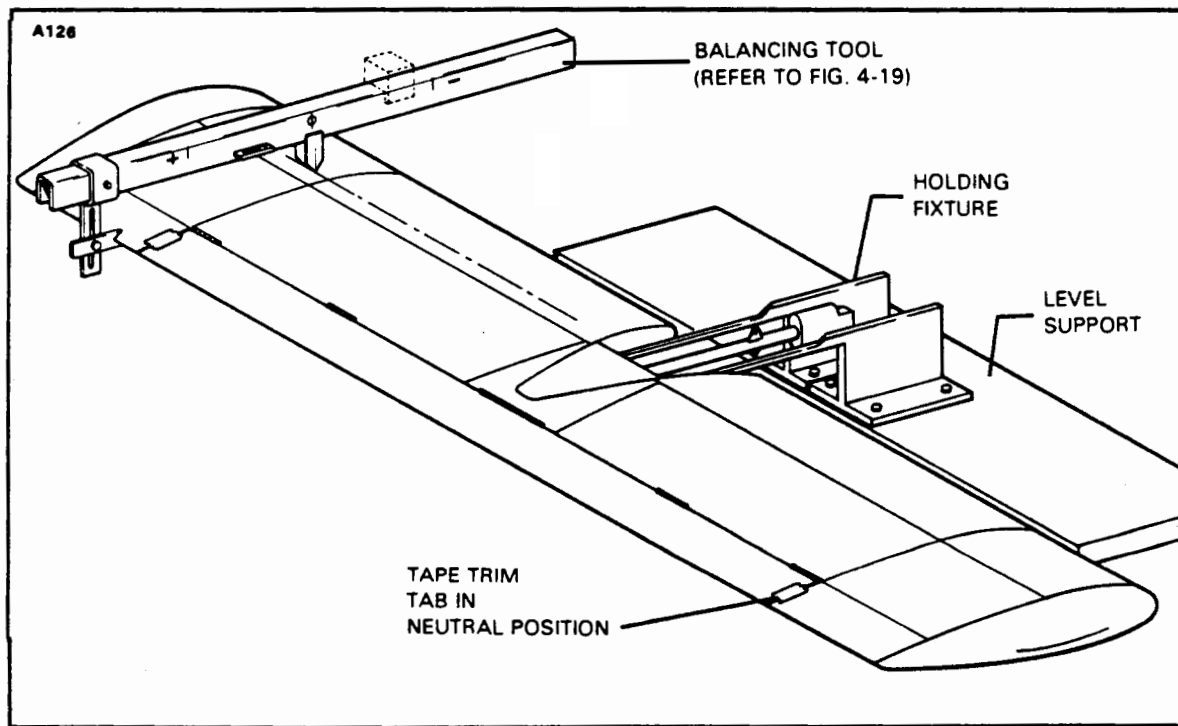

Figure 4-21. Stabilator Balance
4-75. BALANCING STABILATOR. (Refer to Figure 4-21.) To balance the stabilator, the assembly must be complete including the trim tab, the tab push rod and end bearing, stabilator tips and all attaching screws. Before balancing, tape the trim tab in neutral position with a small piece of tape. Place the complete assembly on the knife edge supports in a draft-free area in a manner that allows unrestricted movement. Place the tool on the stabilator with the beam perpendicular to the hinge centerline. Do not place the tool on the trim tab. Calibrate the tool as described in Paragraph 4-72 Read the scale when the bubble level has been centered by adjustment of the movable weight and determine the static balance limit. If the static balance is not within the limits given in Table IV-II, proceed as follows:
- c. Modify the wing end rib, balance arm hole as shown in Figure 4-21.